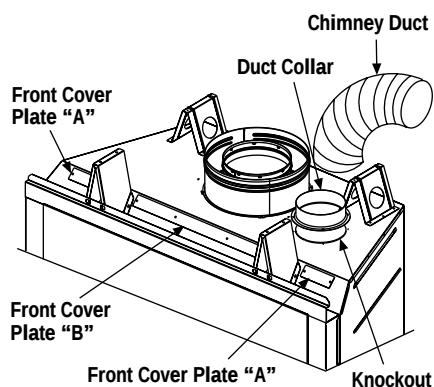

Figure 18
Step 5. Attach the cold climate kit, Model CCK-HCRD, around the chimney collar with the screws provided (see **Figure 18**).